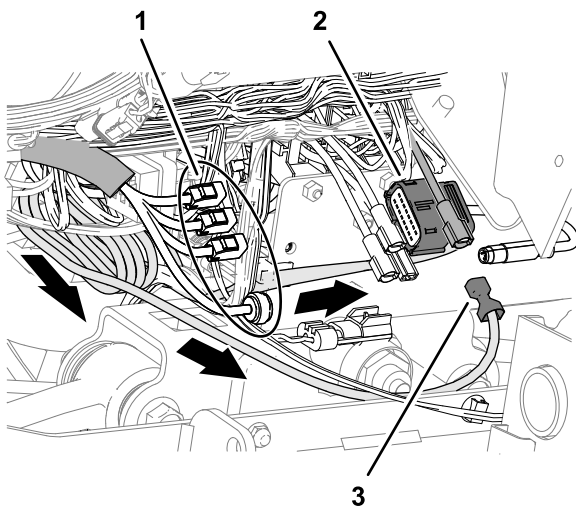

Figure 74
4. At the front of the machine, route the 4-pin connector labeled ETHERNET CL-55 and the 18-socket connector labeled CL55 of the modem power harness to the machine as shown in Figure 74.